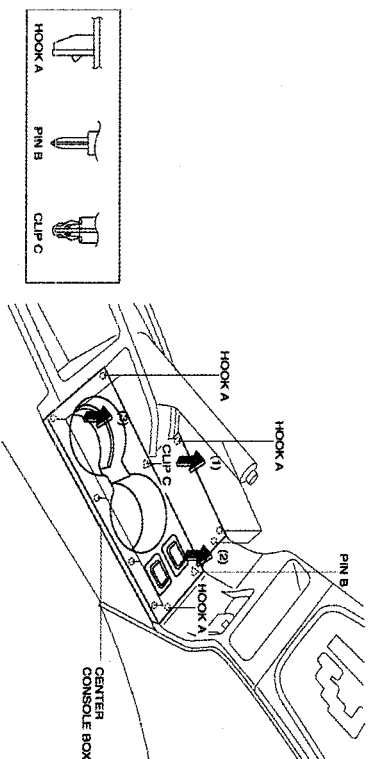

FIGURE 8
- 1.) PULL OUT THE CENTER CONSOLE IN THE DIRECTION OF THE ARROWS (1), (2) AND (3) WHILE DETACHING HOOK A, PIN B AND CLIP C. (SEE FIGURE 8)
- 2.) REMOVE THE CENTER CONSOLE BOX. (SEE FIGURE 8)